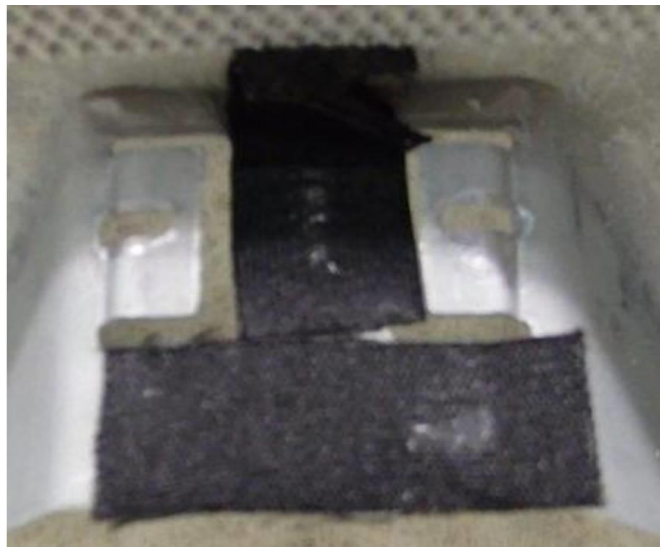

Figure 2. Location of the webbing adhesive tape application.
3. Remove the clips and apply the webbing adhesive tape underneath them, as shown (Figure 2).